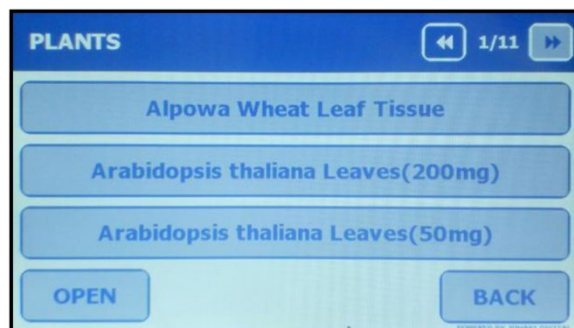

Figure V-3: Plant Category, page 1 of 11
4. Scroll through the program listings using the [ / ] buttons located on the top right corner of the 'Touch Screen' \(Figure V-3\).